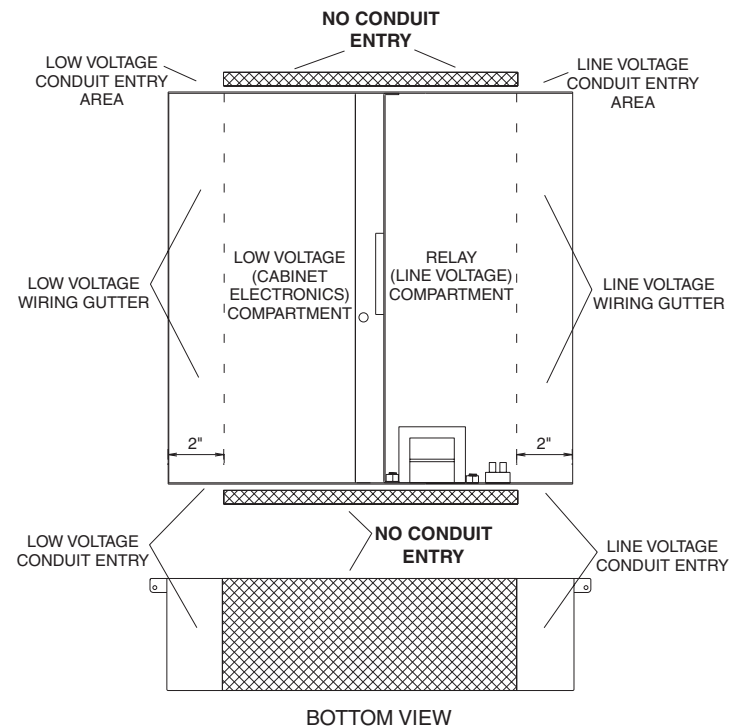

Figure 1 - Conduit and Cable Entry
2. Choose the desired location for line voltage and low voltage conductor entry in the cabinet. DO NOT install conduit where NO CONDUIT ENTRY is shown in *Figure 1*.
3. **ALL LINE VOLTAGE** conductors **must** enter the cabinet on the right side (when facing) of the enclosure, in the area shown in *Figure 1*.
4. **ALL LOW VOLTAGE** conductors **must** enter the cabinet on the left side (when facing) of the enclosure, in the area shown in *Figure 1*.